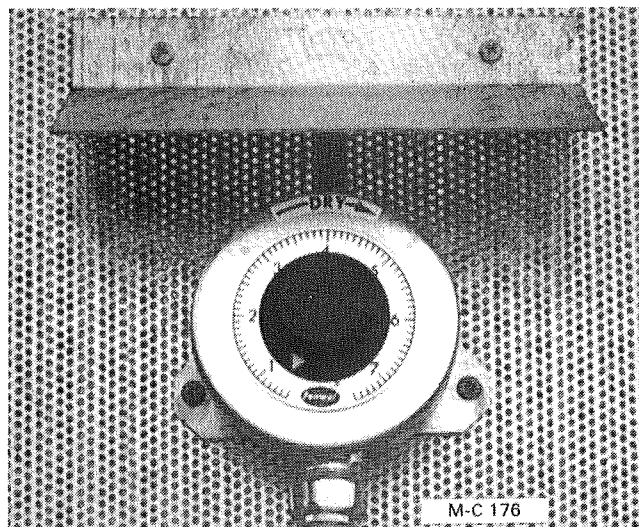

Figure 22
3. Set the moisture control (Figure 22) on each side of the dryer by turning the indicator knob up until the upper ratchet pawl just disengages. Each moisture control will probably have a slightly different setting, this is normal.